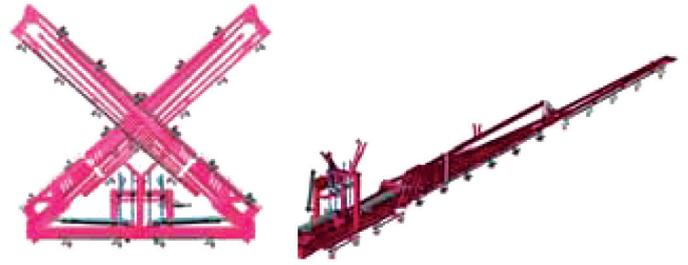

Figure 46
1. The spraying arm (**Figure 46**) is connected from the center in a balancing way and is tensioned by springs from the right and left sides.